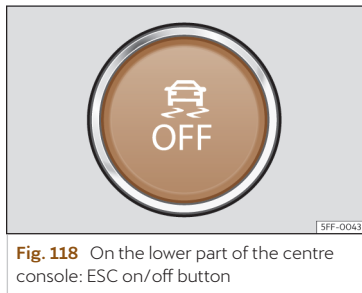

Fig. 118 On the lower part of the centre console: ESC on/off button
- In Sport mode, the ESC can be switched off and on by briefly pressing the  button on the centre console >>> **Fig. 118**.
- The ESC can be switched on and off by briefly pressing the  button on the centre console >>> **Fig. 118**.